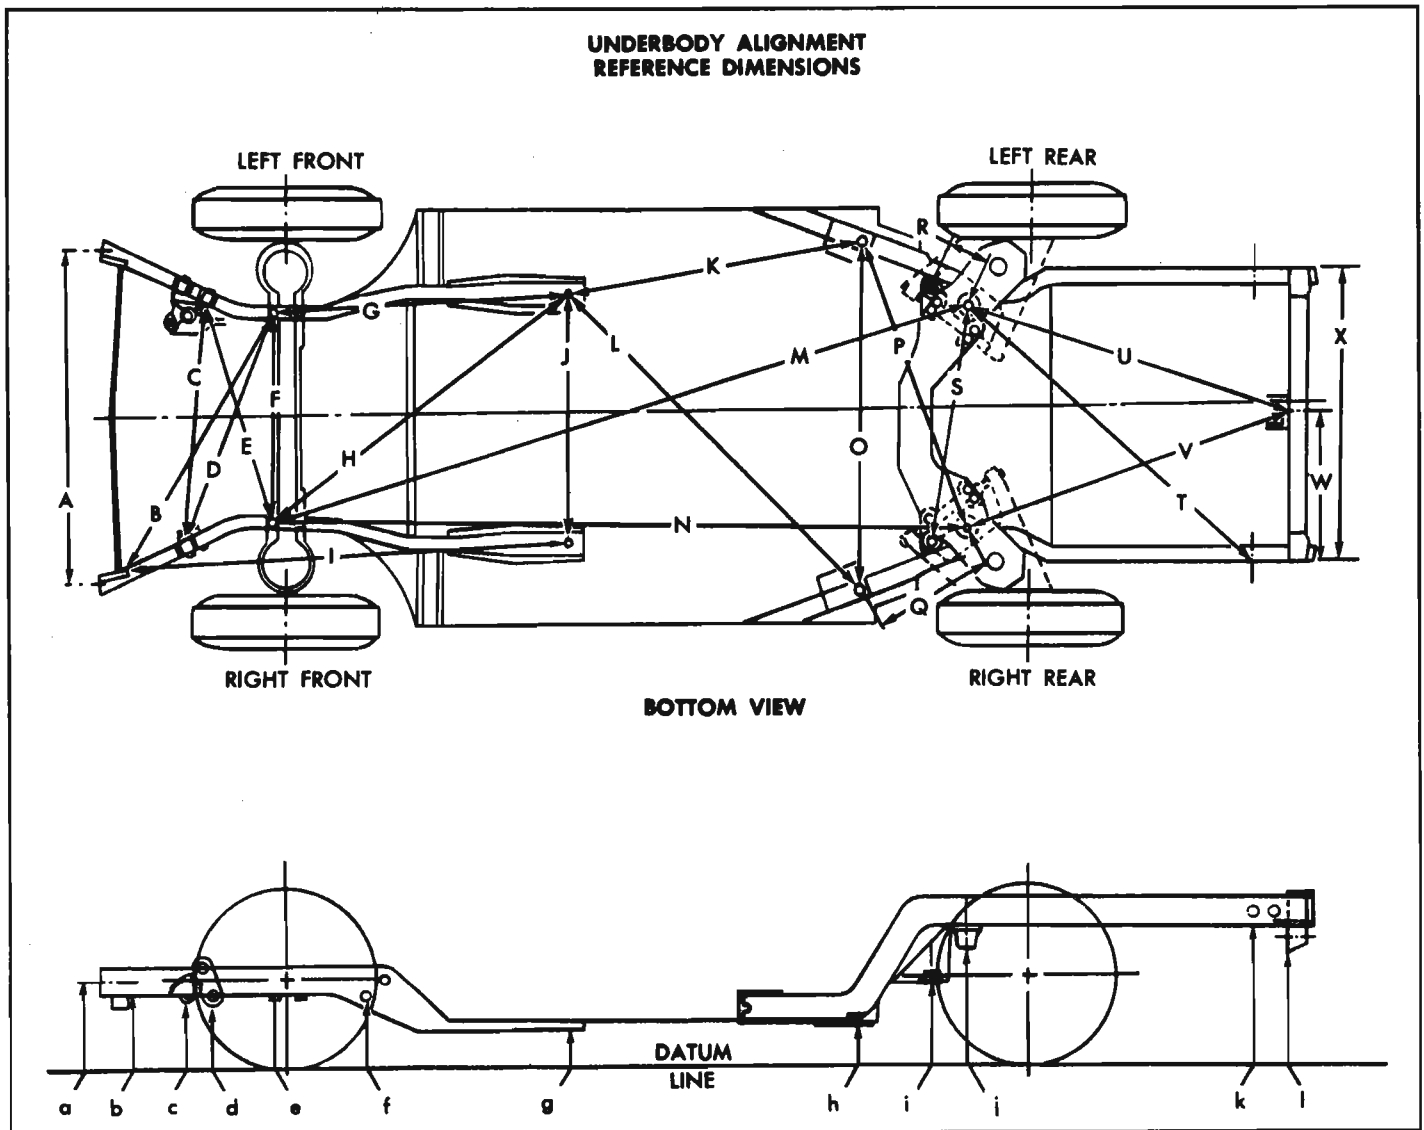

Fig. 10-4—Underbody Alignment
Dimensions shown in the upper portion of Figure 10-4 are calculated on a horizontal plane parallel to the plane of the underbody. Precision measurements can be made only if the tram gage is also always parallel to the plane of the underbody. This can be controlled by setting the vertical pointers on the tram gage according to the dimensions shown in the lower portion of Figure 10-4.
Underbody Alignment Reference Point Dimensions—Figure 10-4
The dimensions and locations presented below are illustrated in Figures 10-4, 10-6 and 10-7.
In the upper portion of Figure 10-4, dimensions B, G, H, I, K, L, M, N, P, Q, R, S and T are of equal distance to the same matching points on the opposite side of the body. For example when performing a cross-check of the body floor pan area, dimension "L" should measure the same distance in both diagonal directions of the cross-check operation.
- The vertical dimension from the datum line to the points to be trammed. As an example, Figure 10-4 indicates that the diagonal measurement (calculated on a horizontal plane) between reference points of dimension line "N" is $103\frac{7}{16}$ inches. With the front and rear suspension systems removed, the specifications from the datum line indicate a vertical height difference of $4\frac{3}{32}$ inches between the forward location of dimension "N" (at vertical dimension e) and the rearward location of dimension "N" (at vertical dimension j). The vertical pointer used at the rearward location should be positioned so as to extend $4\frac{3}{32}$ inches further from the tram bar than the pointer used at the forward location. With the proper settings the tram bar will be on a plane parallel to that of the body plane. The exception to this would be when one of the reference locations is included in the misaligned area then, the parallel plane between the body and the tram bar may not prevail. After completion of the repairs, the tram gage should be set at the specified dimension to check the accuracy of the repair operation.
Front and rear body tie-down strap attaching holes (4, Fig. 10-4)
Front suspension crossmember front attaching bolts (2, Fig. 10-4)
Rear suspension crossmember outer mounting bolts (2, Fig. 10-4)